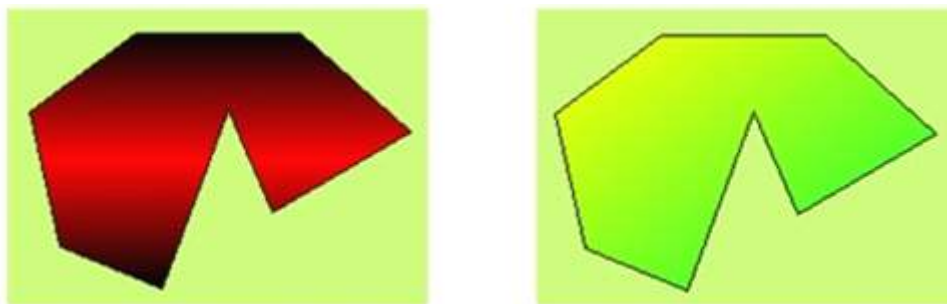

Figure 4-41: An example of a polygon drawn
- You may adjust the properties of the polygon using the pull-down and fine tuning button. SamDraw provides 15 frame line types, 10 frame line widths, and 21 filling patterns for polygon to make the graph more beautiful and vivid. See Figure 4-41.